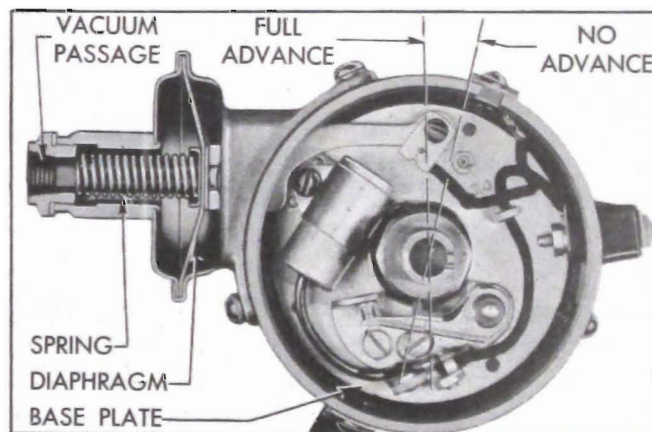

Figure 10-43—Vacuum Advance Mechanism
3. *Vacuum Controlled Advance* is governed by manifold vacuum during part throttle operation. The contact points are mounted on a base plate which is supported by three nylon buttons or bearings upon a stationary support plate in distributor housing. The base plate is held to the support plate by a retainer washer seated in a groove of base plate hub, which serves as a bearing to permit the base plate to rotate on the support plate. The base plate and attached contact points can be rotated around the distributor cam by the link of the vacuum control mounted on the side of distributor housing. See figure 10-43.